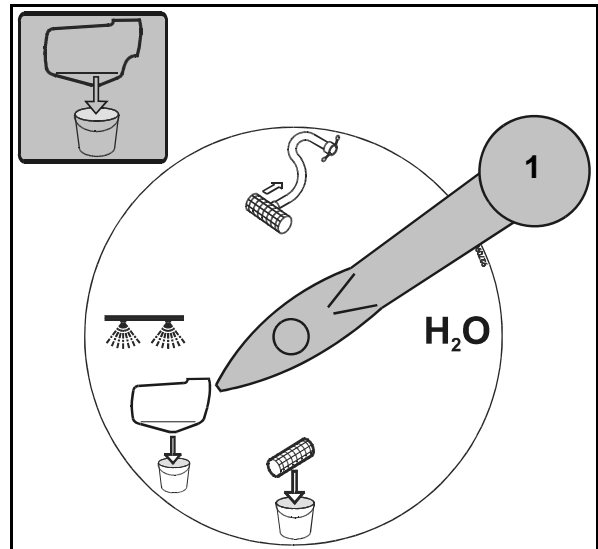

Fig. 209
17. VARIO-control-suction side (Fig. 209/1) in position "**Spray cocktail tank emptying**" and drain the technical residual amount off the spray cocktail tank in a suited collecting container.